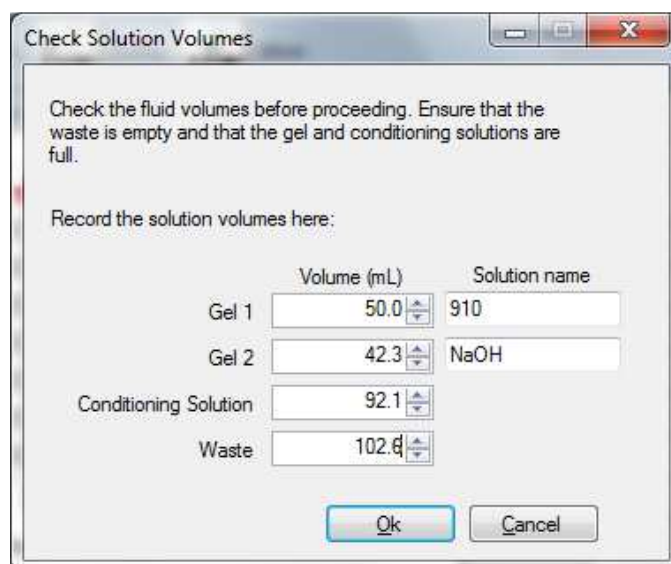

Figure 1. **Solution Levels** menu
- When adding Separation Gel to the instrument, update the solution levels in the *Fragment Analyzer*TM instrument control software. From the Main Menu, select **Utilities – Solution Levels**. A menu will be displayed to enter in the updated fluid levels (Figure 1).
5. When adding fresh 1X Capillary Conditioning Solution to the instrument, update the solution levels in the *Fragment Analyzer*[™] instrument control software. From the Main Menu, select **Utilities – Solution Levels**. A menu will be displayed to enter in the updated fluid levels (Figure 1).